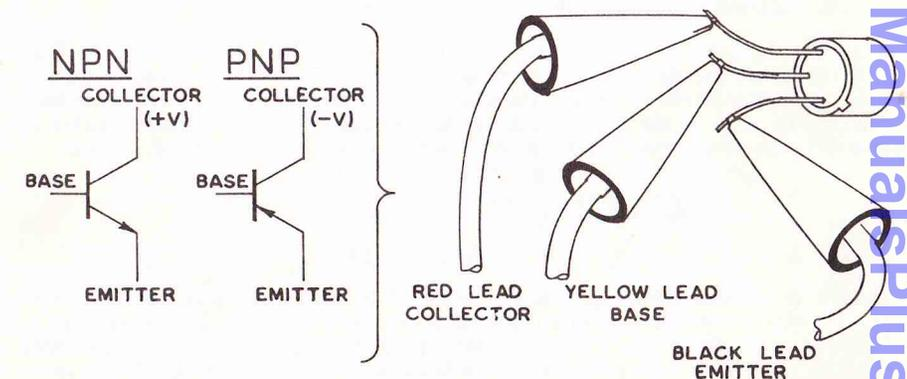

Figure 3. Connecting To A Transistor For In-Circuit And Out Of Circuit Testing
- Connect the E, B, and C test leads to the transistor as shown in figure 3 or 4.